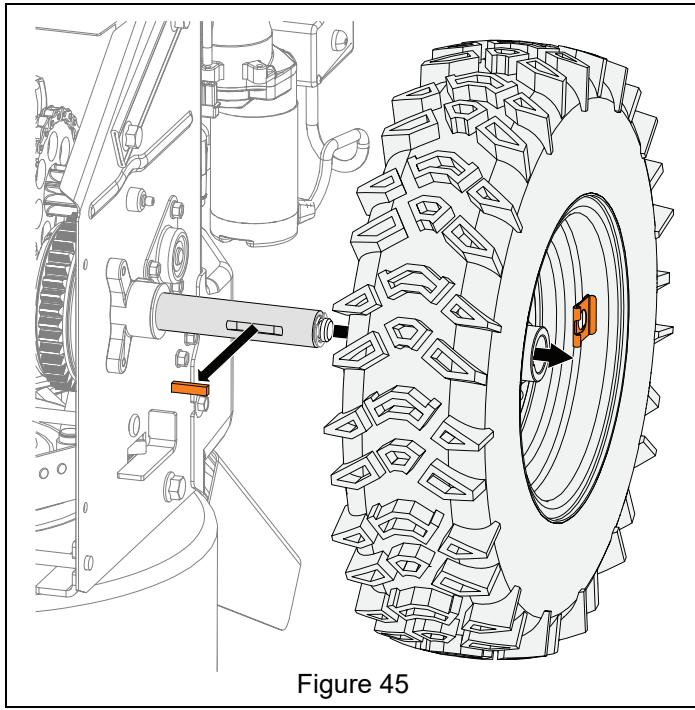

Figure 45
10. Remove snap clip from right side axle end and remove right wheel and axle key. Take care to not lose axle key. See Figure 45.
6. Ensure axle key is in position and reinstall right wheel. Secure with snap clip. See Figure 45.